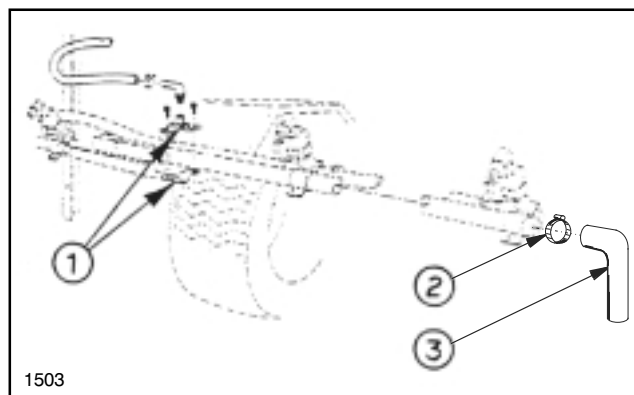

FIG. 5
27. Install the split eyelet connectors and 3/8" 90° hose barbs into the holes previously drilled in the boom pipes (FIG. 5).
28. Connect the boom hoses to the 3/8" hose barbs located in the split eyelet connectors. Secure with hose clamps (FIG. 5).